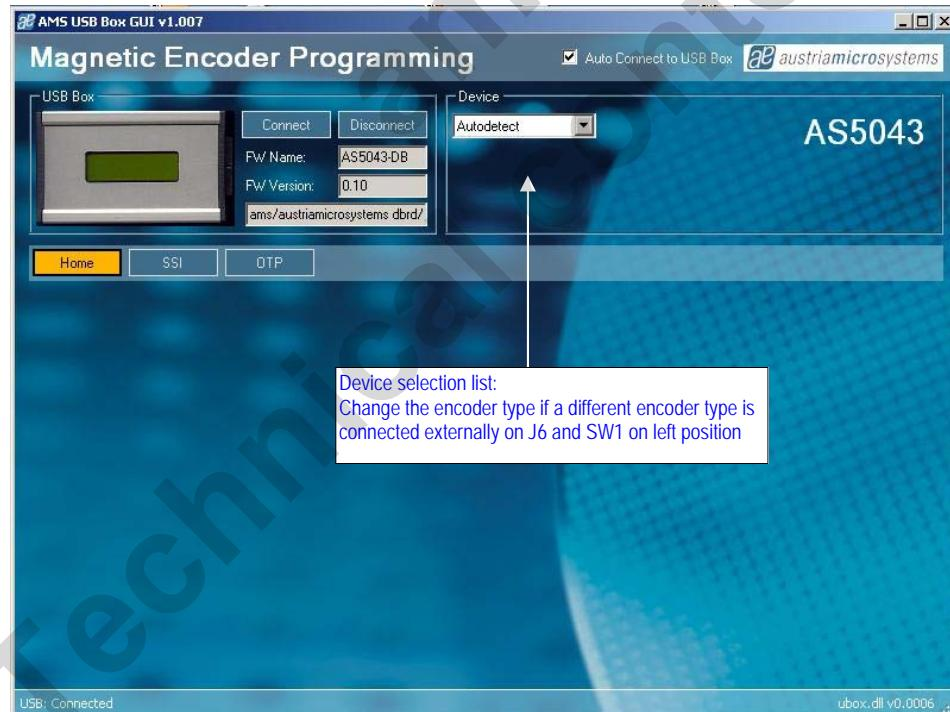

Figure 4: AS5000 GUI detected the AS5043 Demoboard
- If the GUI is used for operation, additional devices AS5040, AS5140, AS5045 and AS5145 can be connected to J6 and evaluated. In that case, the correct encoder must be selected instead of "Autoselect" in the Device list of the PC software, see chapter **Error! Reference source not found.** figure 4.
Figure 4 shows the main window of the GUI. On the top left corner, board information's as firmware (FW) version and demoboard name declaration can be found.